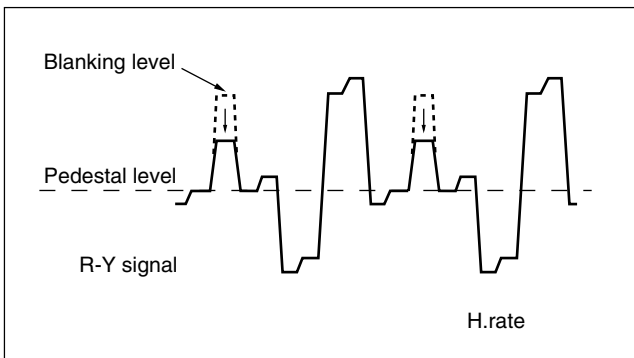

Fig. 3-5-3 DEMOD Fo-1
- Adjust L5 so that the blanking level of the R-Y waveform is near to the pedestal level as shown in Fig. 3-5-3. (L5 is turn to the right side and turn over the 90°, but the blanking level is do not match the pedestal level.)